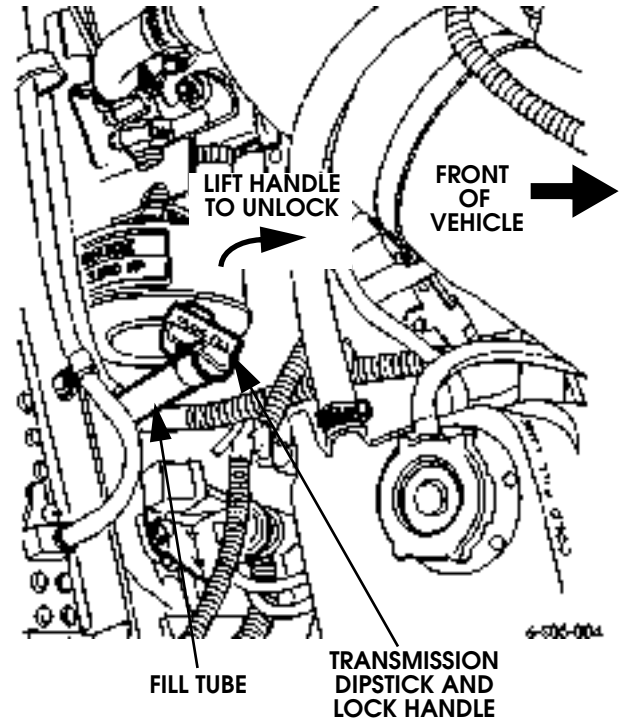
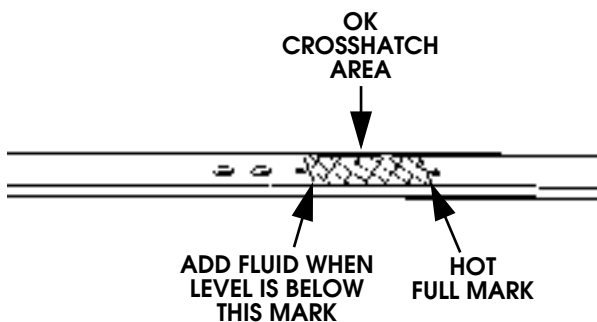

Figure 5-19: Releasing Transmission Dipstick Lock Handle
Figure 5-18: Transmission Fluid Level Marks
6. Unlock and remove dipstick (Figure 5-19). Correct fluid level is to hot full mark at top of crosshatch (Figure 5-18). Adequate fluid level is anywhere in crosshatch area.